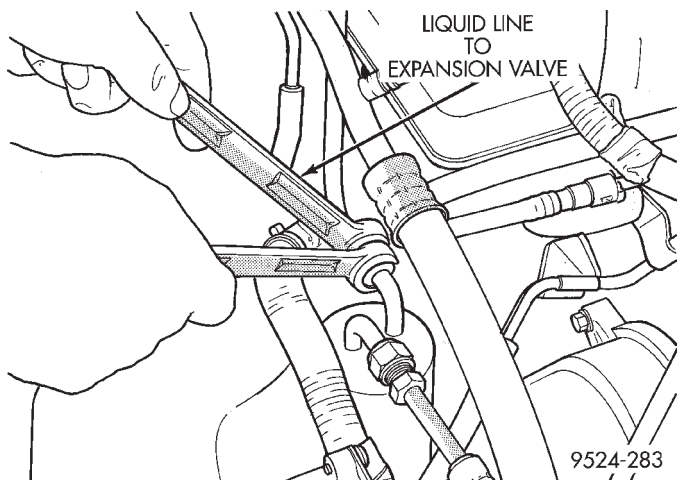

Fig. 53 Liquid Line From Expansion Valve
- (3) Remove liquid line at filter/drier from expansion valve (Fig. 53).